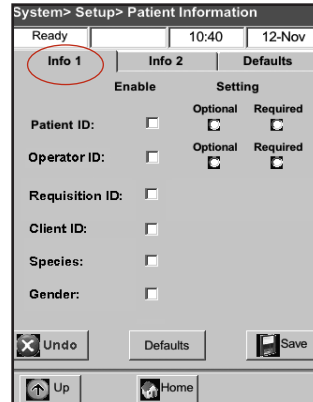

Figure H-7: System > Setup > Patient Information > Info 1 screen
4. On the Info 1 screen, tap the options you want to include in the patient information (Figure H-7): **Patient ID**, **Operator ID**, **Requisition ID**, **Client ID**, **Species** and **Gender**.